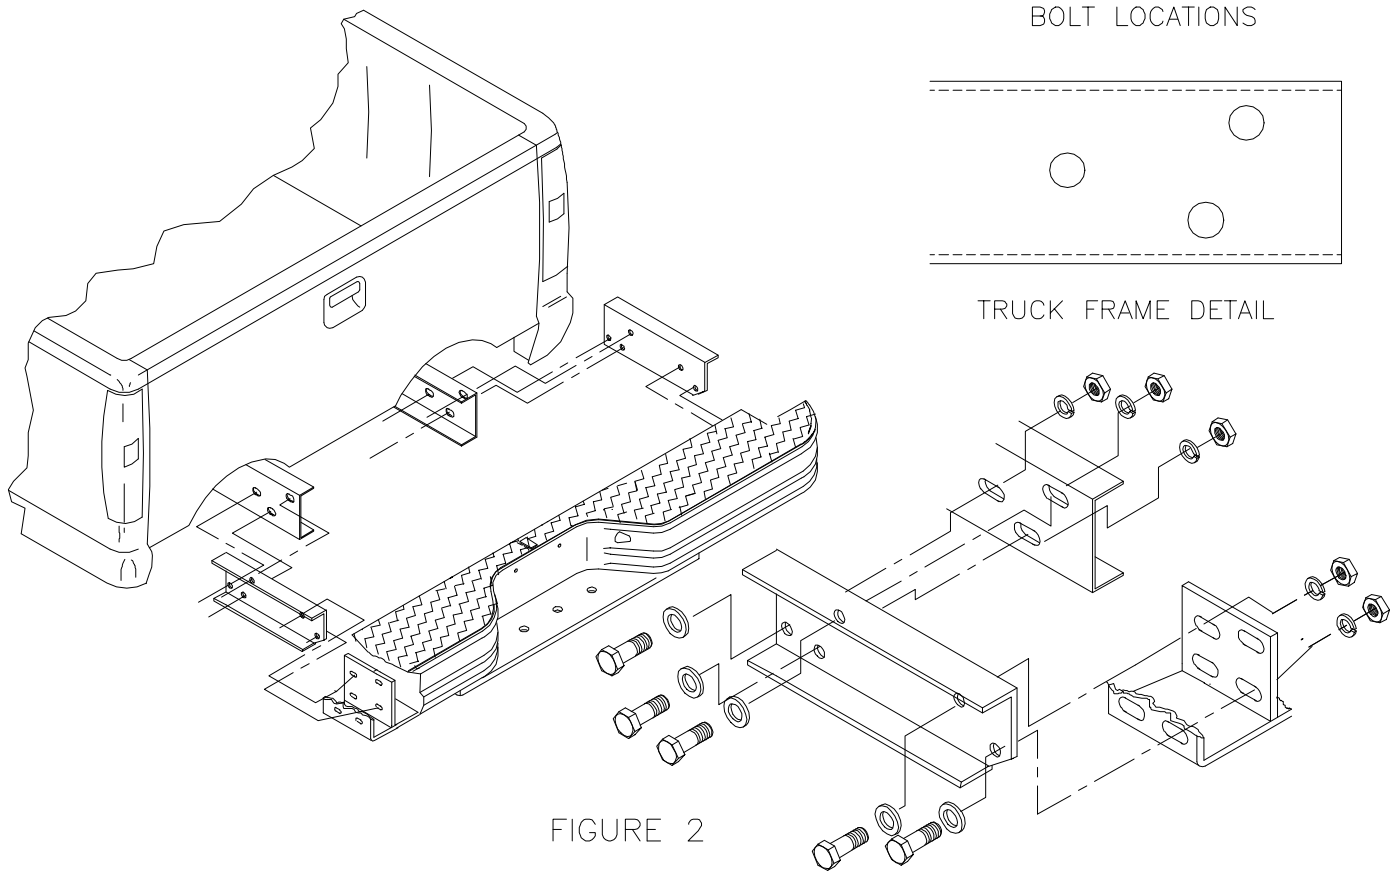

FIGURE 2
STEP 2: Using inner verticals, Install bumper onto mounting brackets with brackets outside of bumper verticals. See figure 2. Use 1/2 inch hardware. DO NOT TIGHTEN.